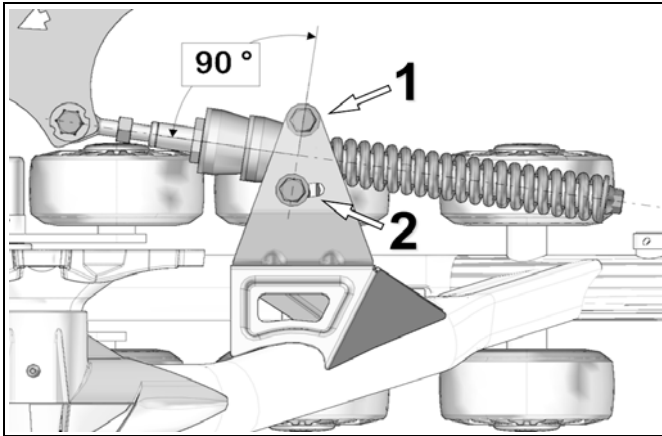

Figure 12
- Position the anti-rotation retainer plate at 90° (perpendicular) with the stabilizing rod. Tighten the two anti-rotation bracket mounting bolts (1 and 2) to 50 N•m of torque. Refer to Figure 12.